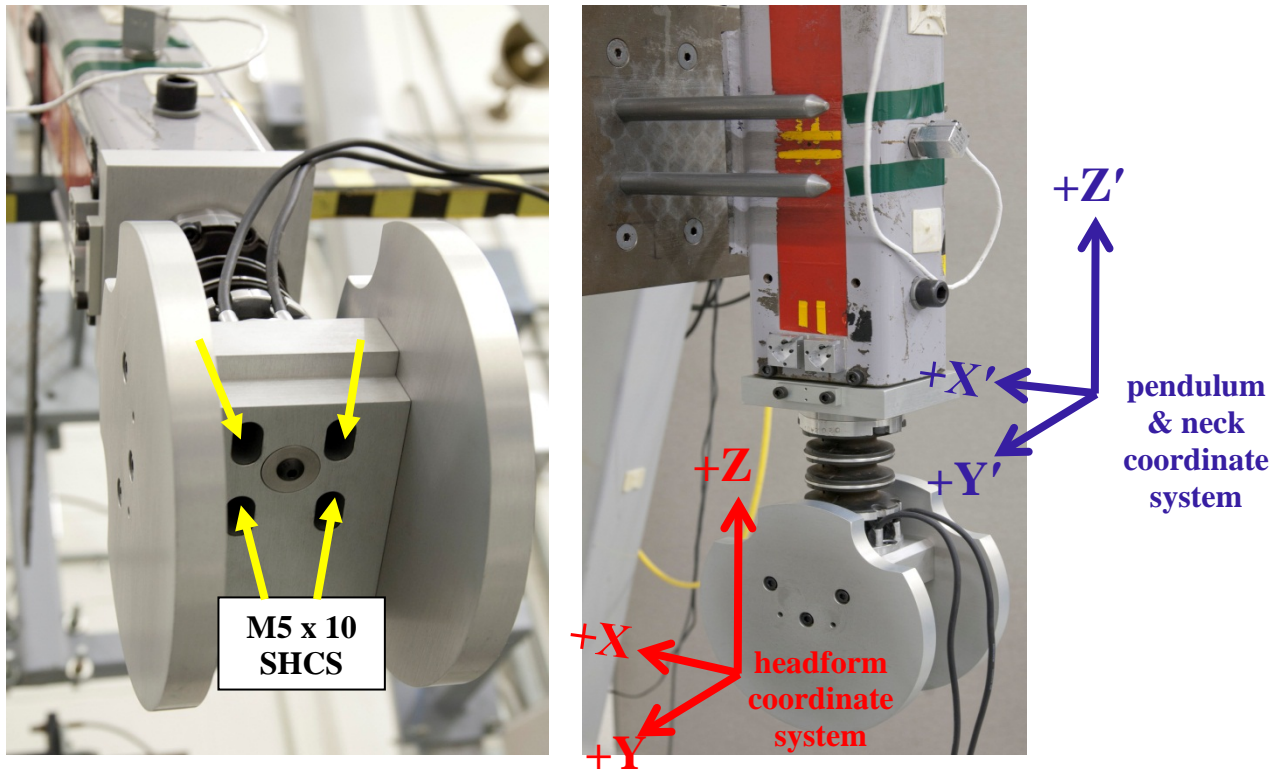
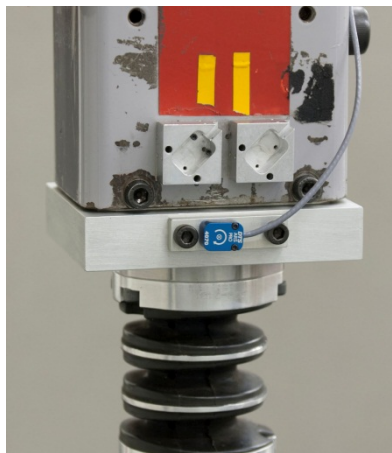

Figure 21. Install headform and upper neck load cell to neck
Figure 22. Install ARS to pendulum
- Attach the headform and upper neck load cell to the neck with four M5 x 10 SHCS (Figure 21).
- Install the Angular Rate Sensor (ARS)³ to the pendulum interface plate using two M1.4 x 8 SHCS so that it measures rotational velocity about the Y' axis (Figure 21 and Figure 22).
- The neck pendulum has a mass as specified in Figure 22, 49 CFR 572.33.
- Mount an accelerometer on the pendulum at the location specified in Figure 22, 49 CFR 572.33.